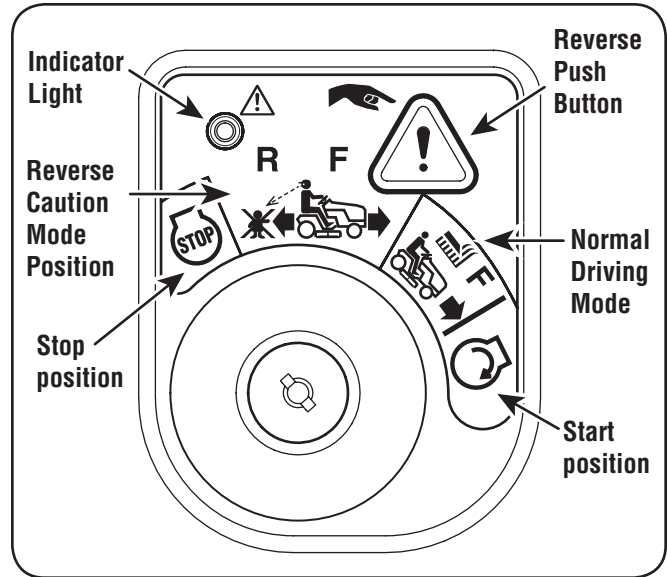

Figure 9
2. Turn the key from the NORMAL MOWING (Green) position to the REVERSE CAUTION MODE (Yellow) position of the key switch module. See Figure 9.
3. Press the REVERSE PUSH BUTTON (Orange, Triangular Button) at the top, right corner of the key switch module. The red indicator light at the top, left corner of the key switch module will be ON while activated. See Figure 9.